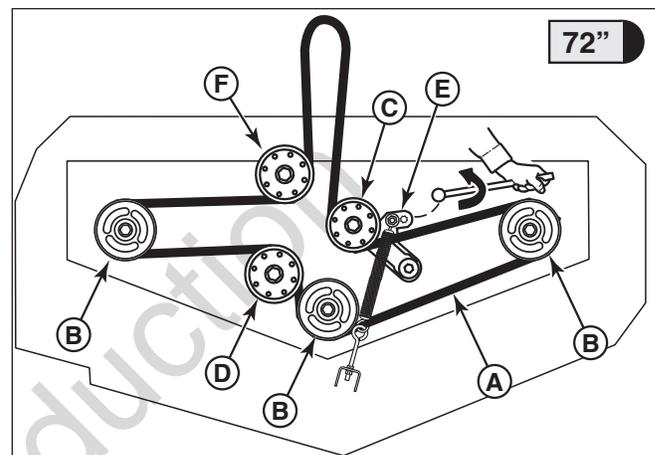

Figure 49. Mower Deck Drive Belt Routing - 72" Models (S/N: 2016950123 & Above)
3. Using a 1/2" breaker bar, place the square end in the eight-sided hole located in the end of the idler arm (E, Figure 49). Carefully rotate the breaker bar **counter-clockwise**, which will relieve the tension on the belt exerted from the idler arm.